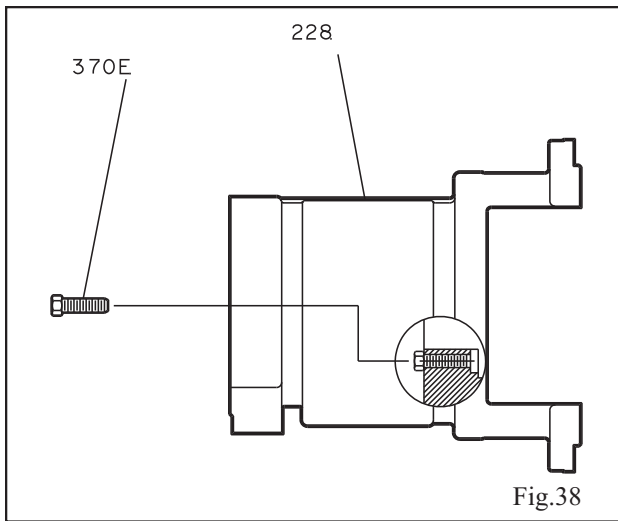

Fig.38
- **Grease Lubrication** - Ensure plug (370E) is installed in radial end oil return (Fig. 38).